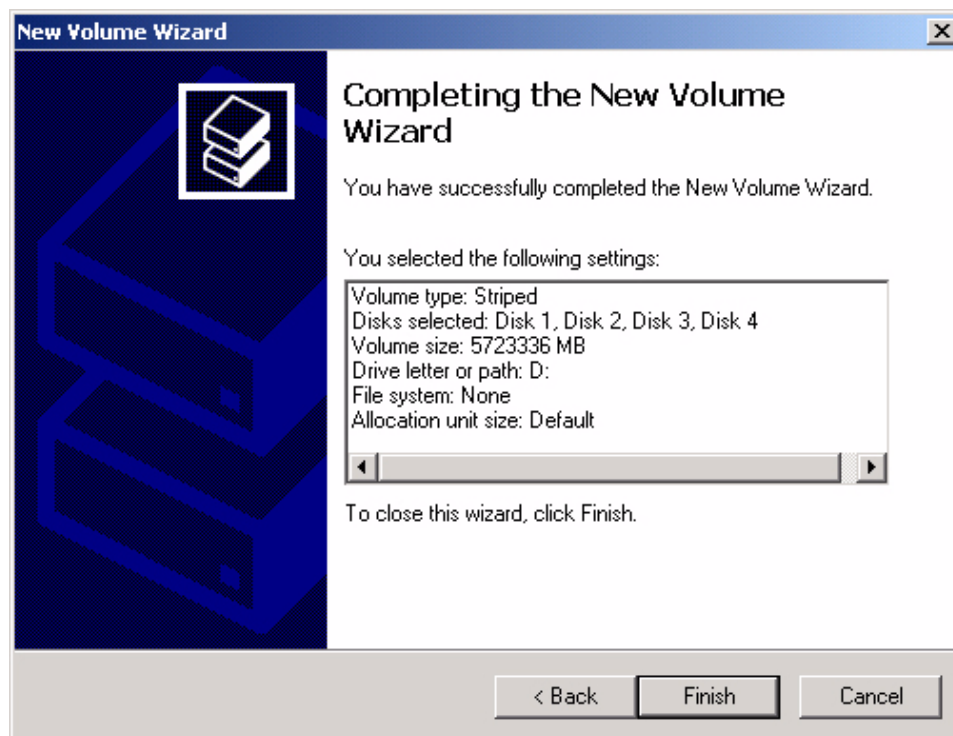

FIGURE 6-27. New Volume Wizard - Completing the New Volume Wizard Screen.
5. The *New Volume Wizard - Completing the New Volume Wizard* screen appears. Review the settings that have been made. If incorrect, click **< BACK** to make a correction at a previous screen. If OK, click **FINISH**. See Figure 6-27.